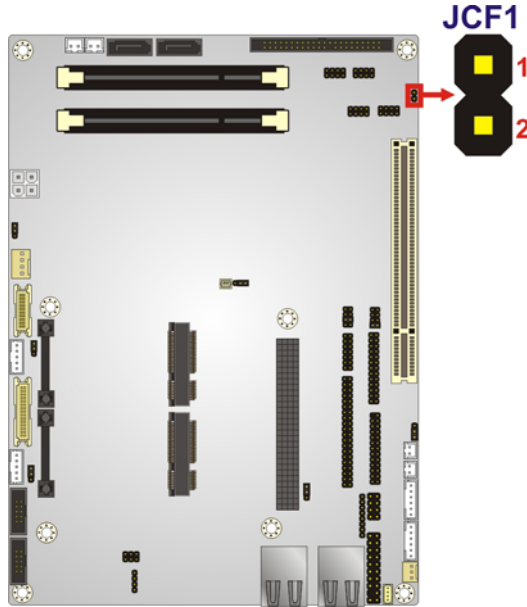

Figure 4-7: CompactFlash® Setup Jumper Location
- Jumper Location:** See Figure 4-7